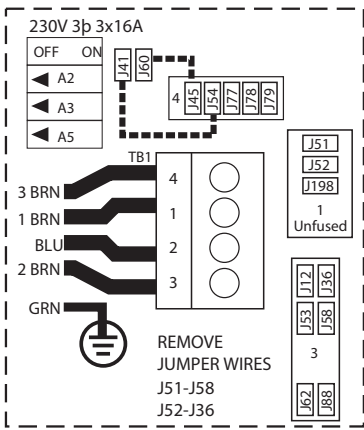

Figure 2
OPTIONAL HOOKUP – 3 SERVICE (Figure 2)
2. Only reinstall jumper wires as indicated by dotted lines in Figure 2.